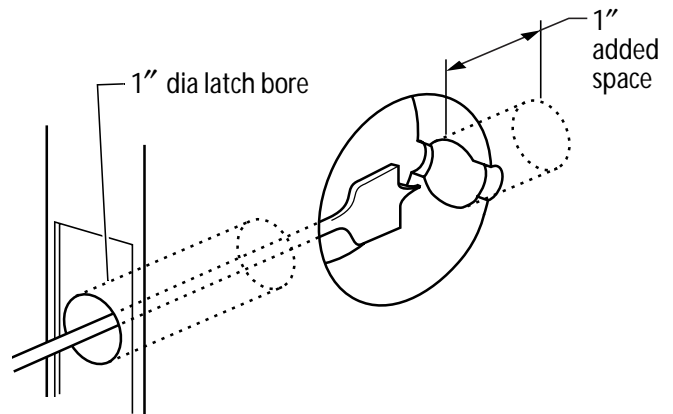

Figure 1 Extending the latch bore to provide for wire connections
- With a 1" diameter drill bit extending through the latch hole, drill on the opposite side of the 2 1/8" bored hole to a minimum depth of 1" as shown in Figure 1.